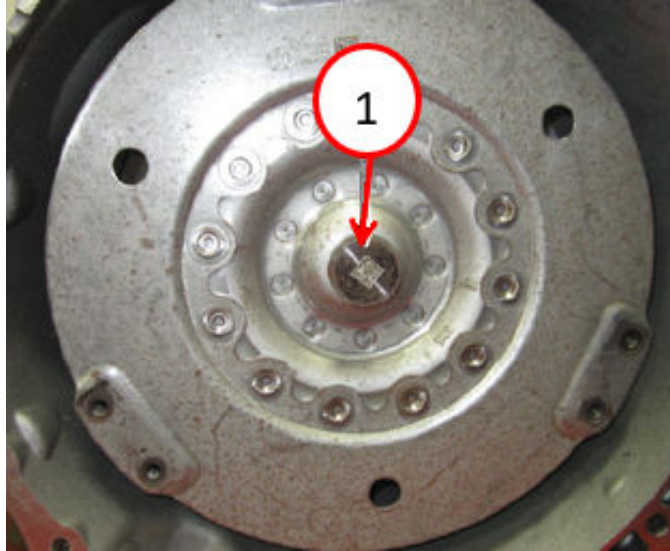

Fig. 2
3. If equipped with 4WD, remove the transmission housing extension bolts and remove the extension housing Fig. 2.